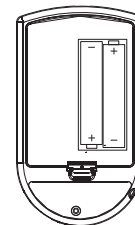

Figure 81
Open the battery cover located on the backside of the meter. Insert two (2) AAA Alkaline batteries and align them properly. *See Figure 81.*